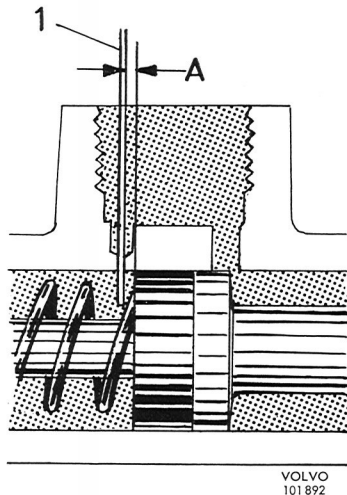

Fig. 5-50. Checking equalizing hole
4. Check that the hole for the stop screw is clear and install screw (5) and sealing washer. The tightening torque should be 10—12 Nm (7—9 lb ft).
5. Check the movement of the pistons and make sure that the through-flow holes are clear. The equalizing hole is checked by inserting a soft copper wire with diameter .5 mm (25 s.w.g.) through the hole, see Fig. 5-50. If the equalizing hole is not clear, then the master cylinder is generally wrongly assembled.